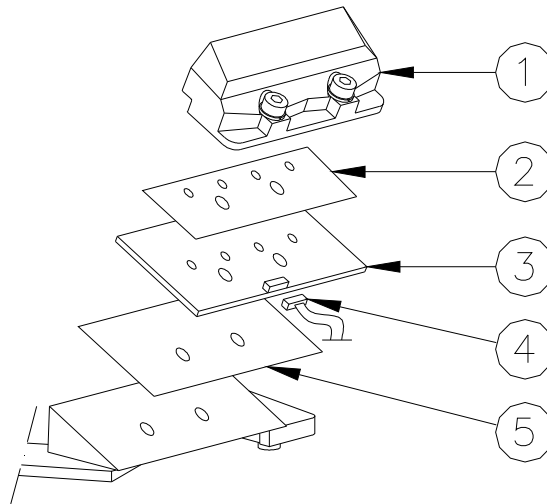

Figure 21 – LED Module Replacement (Threshold)
- disconnect the power supply connector from the LED module (Figure 21 – n°4)
- remove the LED module (Figure 21 – n°3) and the relevant reflector (Figure 21 – n°1) from the mounting plate unscrewing the two screw HSCS M3x12
- check that the thermal interface (Figure 21 – n°5) is placed under the LED module and right-positioned
- check that the Kapton insulating sheet (Figure 21 – n°2) is placed over the LED board is lying down and right-positioned
- reconnect the power supply connector (Figure 21 – n°4) to the LED module
- disconnect the power supply connector from the LED module (Figure 21 – n°1)
- remove the LED module (Figure 21 – n°2) and the relevant lens array (Figure 21 – n°3) from the mounting plate
- reconnect the power supply connector (Figure 21 – n°1) to the LED module